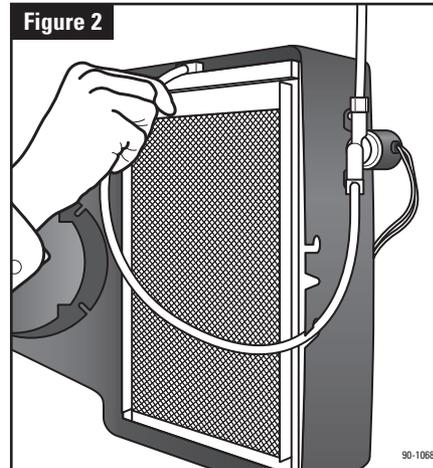

Figure 2
6. Reinstall the evaporative assembly back into the base, with the bottom of the scale control insert (6) sitting firmly in the inside of the drain spud (9). Push the feed tube back into the water distribution tray. (See Figure 2) Put the front cover back on. If the nameplate (11) is upside down, remove it by gently squeezing the tabs of the nameplate from inside the cover and pushing out. Rotate the nameplate so it is right side up, and snap back into place. Turn damper handle (8) to the open position "WINTER" for the heating season, or closed position "SUMMER" for the cooling season.